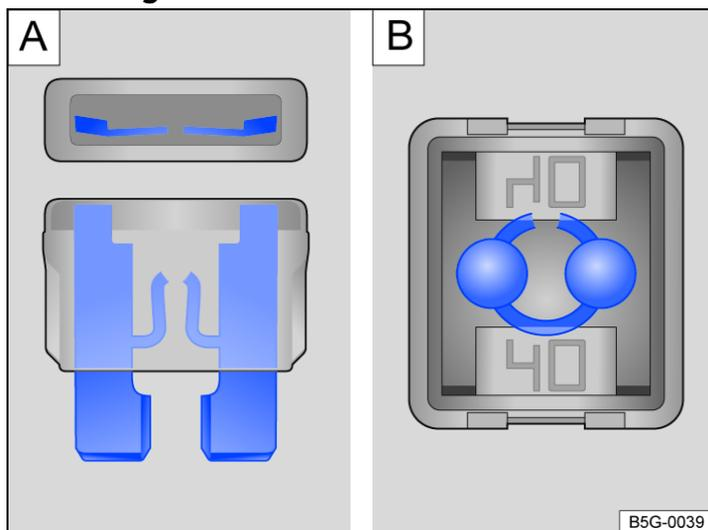

Fig. 1 Blown fuse (general example).
- A blown *flat connector fuse* (ATO®, MINI®) has metal strips that have burned through, which you can see through the transparent housing from above and from the side → *fig. 1* **A**.
- A blown *block fuse* (JCASE®) is recognizable by the melted metal strip seen through the transparent housing from above → *fig. 1* **B**.